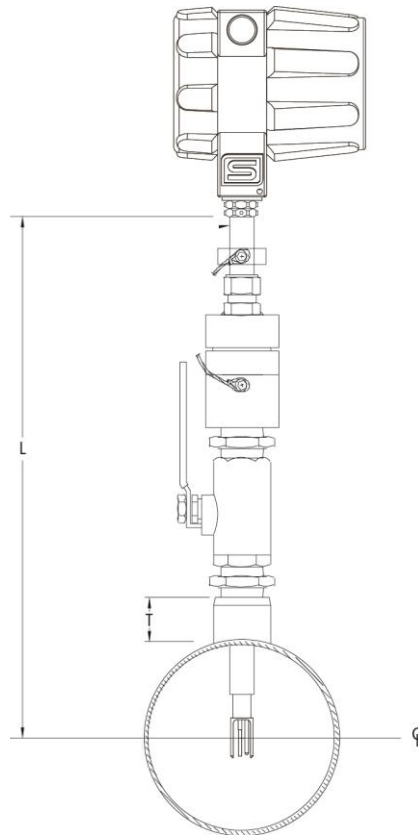
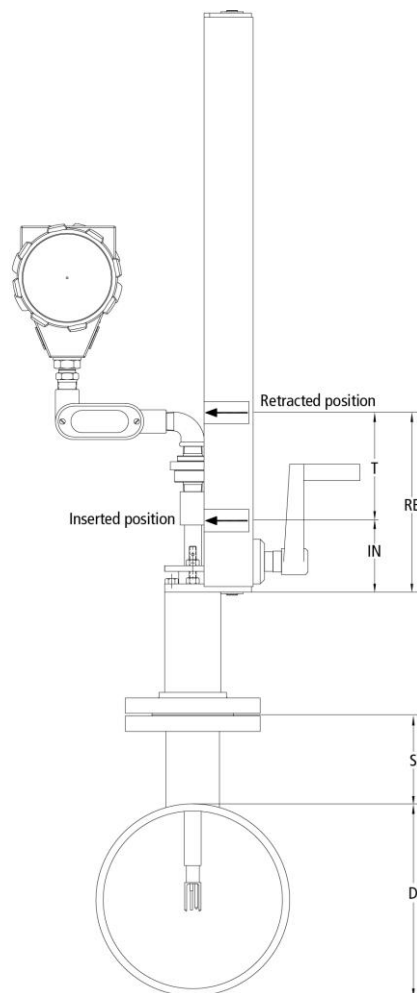

Figure 2-2: Low Pressure Tap Insertion Depth
Figure 2-3. High Pressure Tap Insertion Depth
2. Calculate the flow meter insertion depth as shown in Figure 2-2 for a low pressure tap or Figure 2-3 for a high pressure tap.